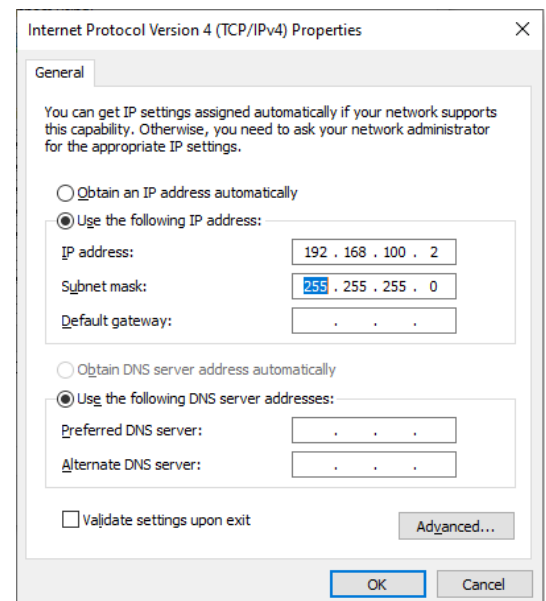

Fig. 4-3, Internet Protocol (TCP/IP) Properties Screen, Windows® 10
4. The “Internet Protocol Version 4 (TCP/IPv4) Properties” dialog box will open (**Fig. 4-3, Internet Protocol (TCP/IP) Properties Screen, Windows® 10**). (Record the existing IP address and Subnet mask in order to later return the computer to its original state.) Select “Use the following IP address.” Enter the values shown: IP address 192.168.100.2 and Subnet mask 255.255.255.0.